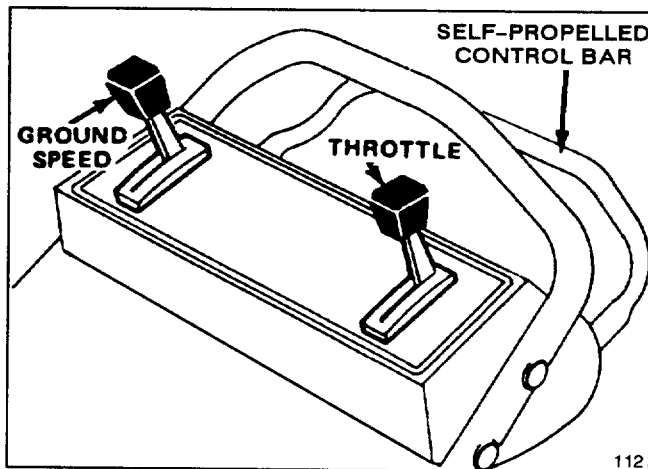
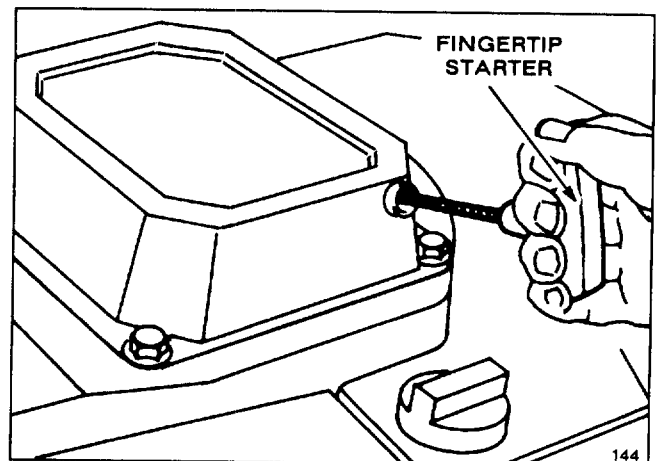

Figure 4
Figure 6
1. CONTROLS—Throttle, ground speed control, and blade/self-propelled control bar are on upper handle (Fig. 4). Fingertip starter is on top of engine (Fig. 6).
3. Move ground speed control to "N" (Fig. 4).
4. Move throttle to CHOKE. Pull engine mounted fingertip starter out until positive engagement results; then pull vigorously to start the engine (Fig. 6). When engine starts, remove throttle from CHOKE and regulate throttle as desired. When temperature is near 40°F, a few extra pulls may be required because the engine needs priming.
6. STOPPING (Fig. 4)—Release control bar to stop blade and traction drive. Move ground speed control to "N". To stop engine, move throttle to OFF. Pull wire off spark plug if mower will be unattended or not used.